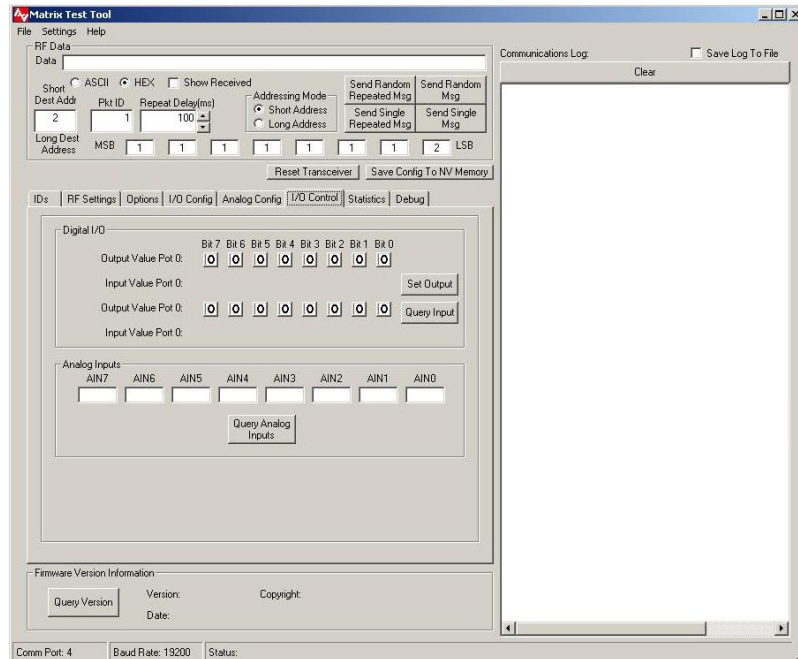

Figure 4-7. I/O Control
4.2.9 I/O Control (See Figure 4-7)
The I/O Control page can be accessed by clicking the *I/O Control* tab in the software, and is shown in Figure 4-7. The I/O Control page can be used to read analog and digital inputs and set digital outputs.